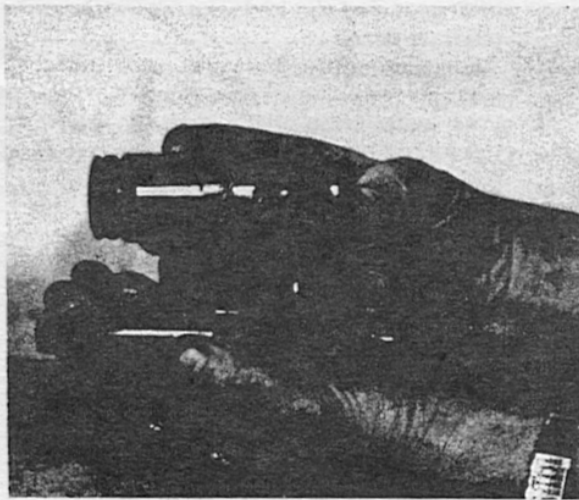

Fig. 11
45. Remove the shift drum-shift fork assembly from the transmission gears and inspect the shift forks for bends or abnormal wear. (Figure 11)